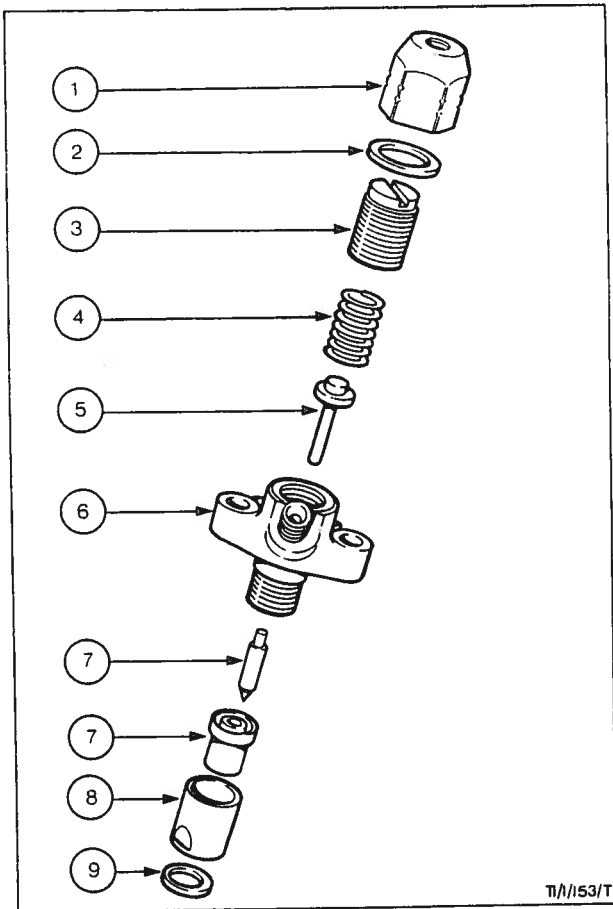

Fig. 77 Simms Injector
2. Remove the injector cap nut, then with a screwdriver, unscrew the spring adjusting nut and remove the injector spring and spindle, See Fig. 77.